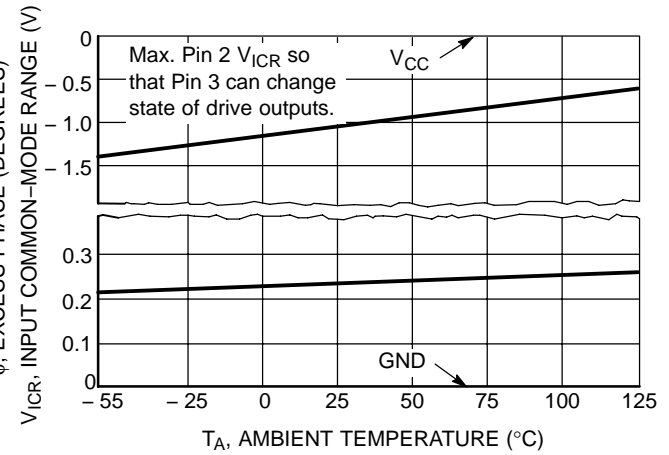

Figure 4. Window Detector Reference-Input Common-Mode Voltage Range versus Temperature
3. The upper or lower hysteresis will be lost when operating the Input, Pin 3, close to the respective rail. Refer to Figure 4.
It must be remembered that points V_1 through V_4 always try to follow and center about the reference voltage setting if it is within the input common-mode voltage range of Pin 3; Figures 4 and 5. Initially consider that the feedback input voltage level is somewhere on the dashed line between V_2 and V_4 in [1]. This is within the dead zone range as defined above and the motor will be off. Now if the reference voltage is raised so that $V_{Pin\ 3}$ is less than V_4 , comparator B will turn-on [3] enabling \bar{Q} Drive, causing Drive Output A to sink and B to source motor current [8]. The actuator will move in Direction B until $V_{Pin\ 3}$ becomes greater than V_1 . Comparator B will turn-off, activating the brake enable [4]